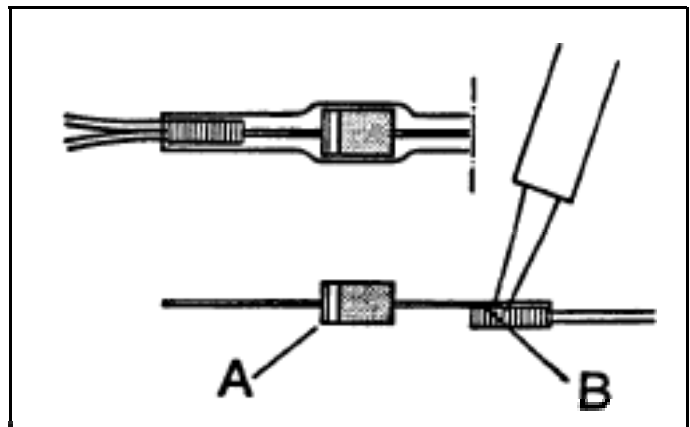

Figure 6. A – New diode
3. Solder one of the new diode's leads to the crimp. Be sure to install the new diode in the same direction as the old one, Figure 6. Compare with old diode or consult Table 4.